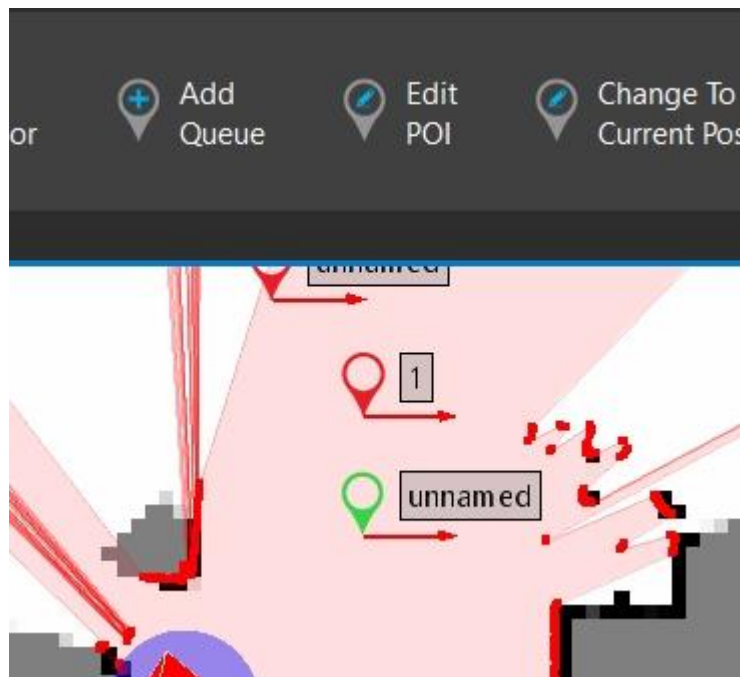

Figure 2.8.5 POIs point turn green when selected
2. Right-click mouse and drag over a POI point and you will see the POI point turn green in figure 2.8.5.